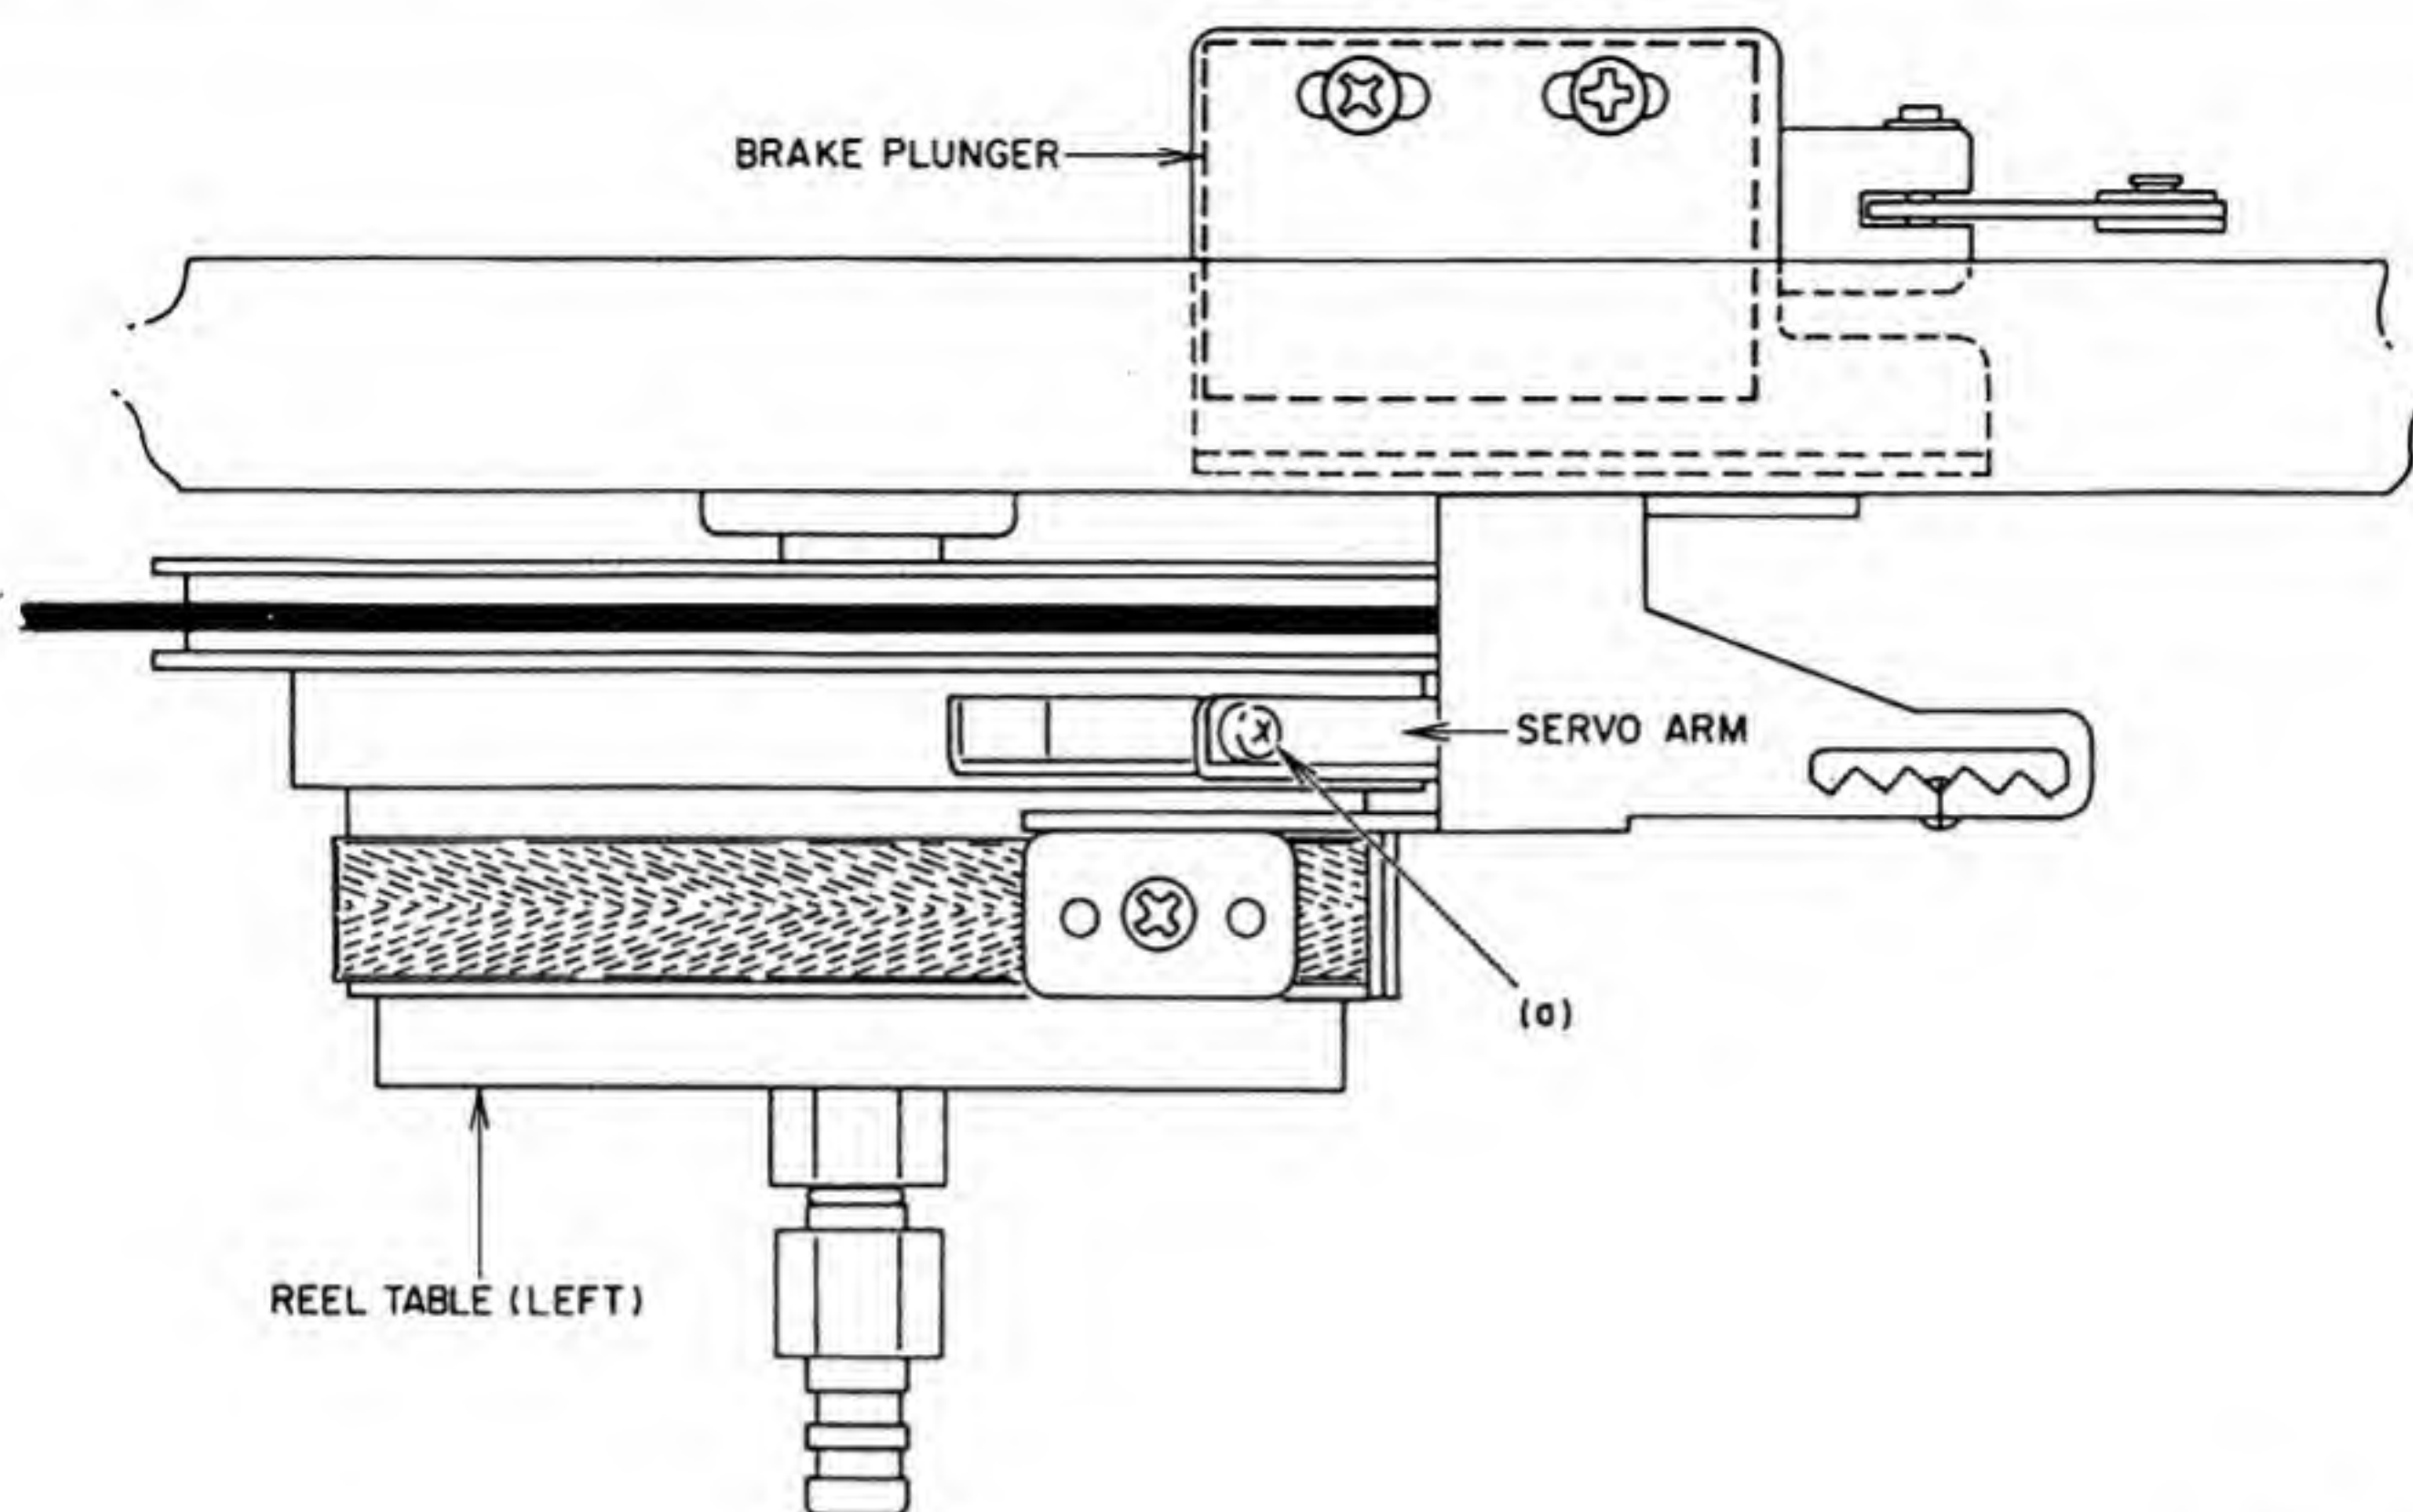

Fig. 34
4. TENSION SERVO ADJUSTMENT (Refer to Figs. 34, 35)